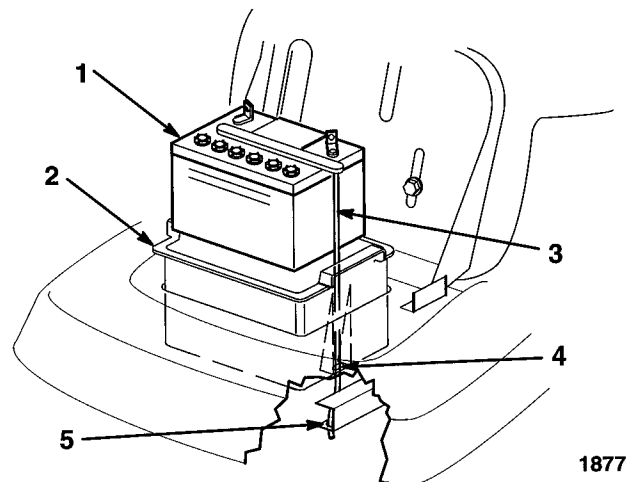

Figure 30
5. Remove the battery box, battery, and long vent tube from the chassis (Fig. 30).
1. Put the battery into the battery box and slide the vent tube into the channel and through the slot in the bottom of the box (Fig. 30).
IMPORTANT: Look down into the cut out area where the battery box fits into the chassis. Notice the hole at the end of the right frame member (Fig. 30). Always install the long battery vent tube through the hole to prevent battery acid from corroding the tractor and mower.
2. Install the battery box and battery into the chassis (Fig. 30). Make sure to slide the end of the vent tube through the hole in the frame (Fig. 30).